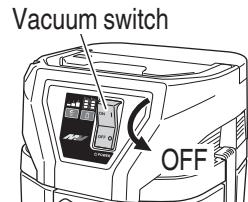

Fig. 9
1. Confirm that the vacuum switch is OFF. (see Fig. 9)